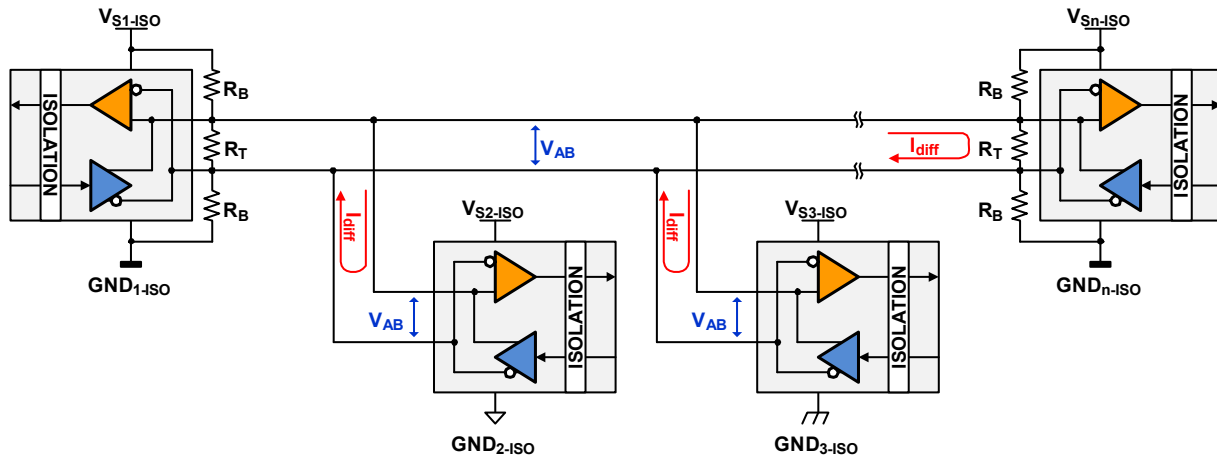
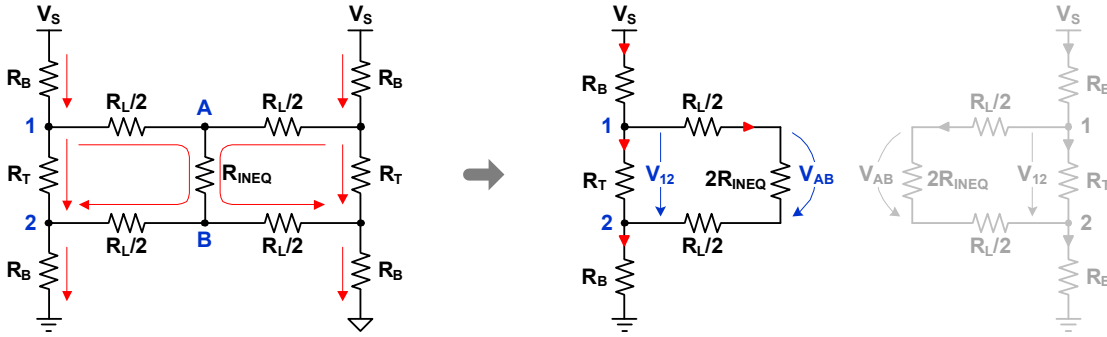

Figure 1. Isolated RS-485 Bus with Transceiver Input Impedances Being Purely Differential
Figure 2. Lumped Equivalent Model and its Reduction to a Simple Voltage Divider
Long haul RS-485 networks use isolated transceiver circuits to free the bus from the large ground potential differences that exist between the local Earth grounds of remote located bus nodes. Unlike non-isolated networks, where the transceiver input impedances present Common-Mode (CM) loads to a bus, isolated networks do not suffer from CM loading. Since all bus node grounds are galvanically isolated from one another, only differential currents flow, making the transceiver input impedances appear as purely differential loads. Figure 1 shows a typical isolated bus with only differential current flow.
Long distance buses use two fail-safe biasing networks, one at each cable end to maintain a relative constant V_{AB} across the bus. Figure 2 shows a lumped equivalent model of the circuit in Figure 1 on page 2 for an idle bus condition. Here, R_B and R_T are the biasing and termination resistors respectively, and R_{INEQ} is the equivalent input resistance of all bus transceivers.